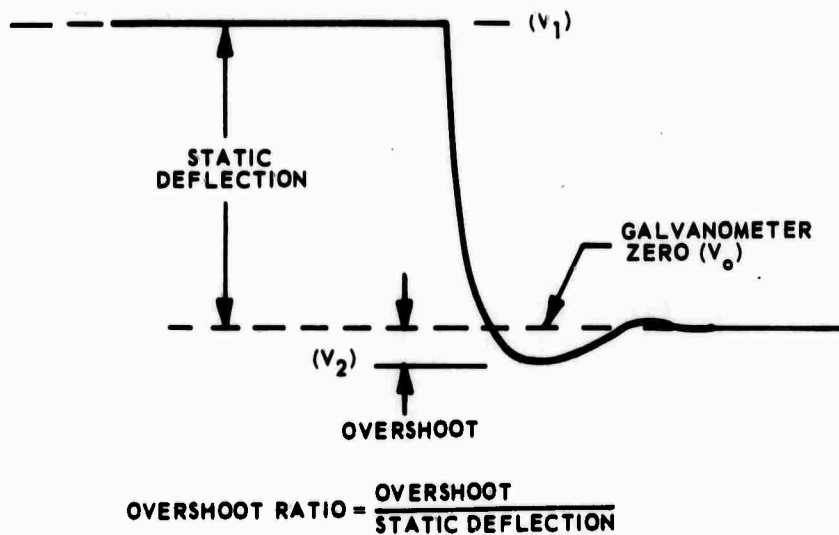

Figure 8. Signal used to measure galvanometer overshoot ratio
i. If recordings are made, the overshoot ratio can be determined from them as shown in figure 8.